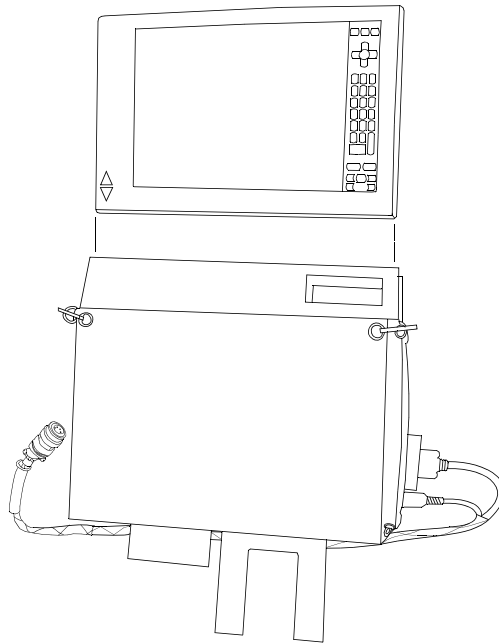

Figure 20 Pen Tablet and Updated Slip Case Version II
- b. Carefully slide Pen Tablet assembly into new slip case, refer to **Figure 20**.